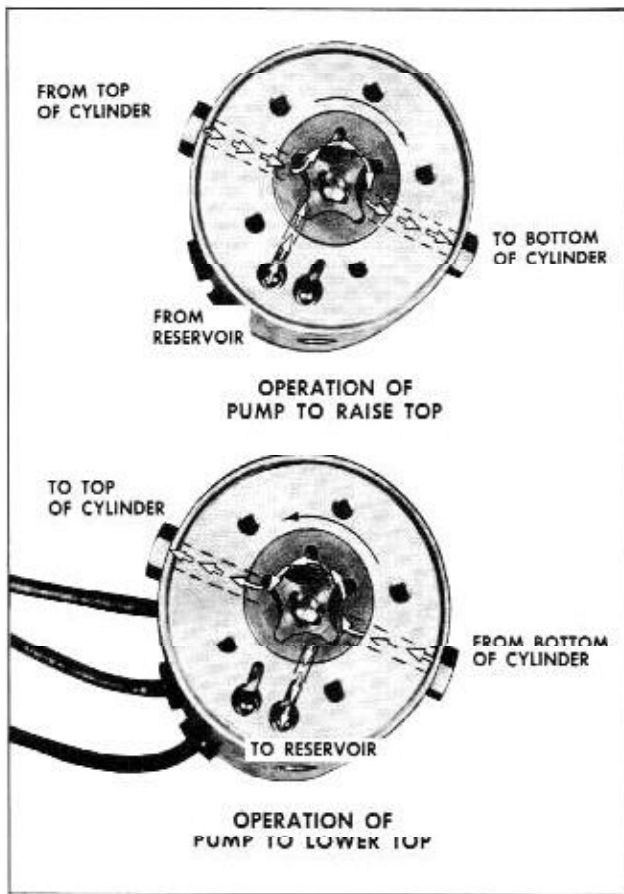

Fig. 17-151 Pump Operation
1. Raising the Top: When the red motor lead is energized the motor drive shaft turns the rotors clockwise as indicated by the large arrow in Fig. 17-151. The action of the pump rotors forces the fluid under pressure to the bottom of each cylinder forcing the piston upward. This action causes the fluid above the piston in each cylinder to be forced into the pump, which recirculates the fluid to the bottom of the cylinders. The additional fluid required to fill the cylinder due to piston rod displacement is drawn from the reservoir.
2. Lowering the Top: When the green motor lead is energized the motor drive shaft turns the rotors counterclockwise as indicated by the large arrow in Fig. 17-151. The action of the pump rotors forces the fluid under pressure to the top of each cylinder. This action causes the fluid below the piston in each cylinder to be forced into the pump which recirculates the fluid to the top of each cylinder. The surplus hydraulic fluid due to piston rod displacement flows into the reservoir.